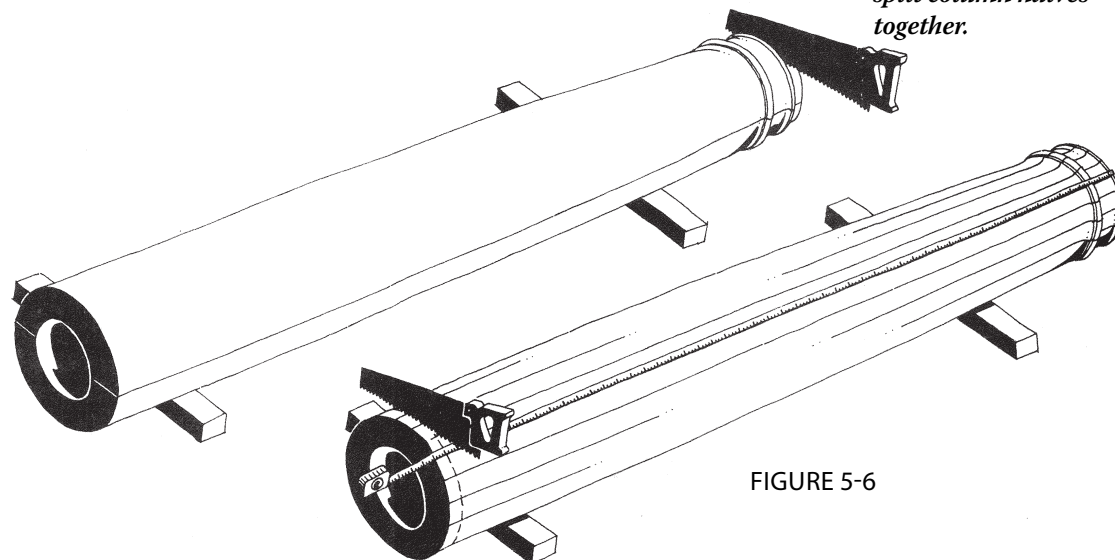

FIGURE 5-6
3. Then measure carefully from the top of the trimmed shaft, along with the edge of at least three staves, around the circumference of the shaft to determine the bottom trim line (Fig. 5-6). Using cardboard or other flexible material, draw a trim line completely around the shaft. By carefully following this procedure, you will ensure that the shaft top and bottom cuts remain square to the centerline of the shaft.